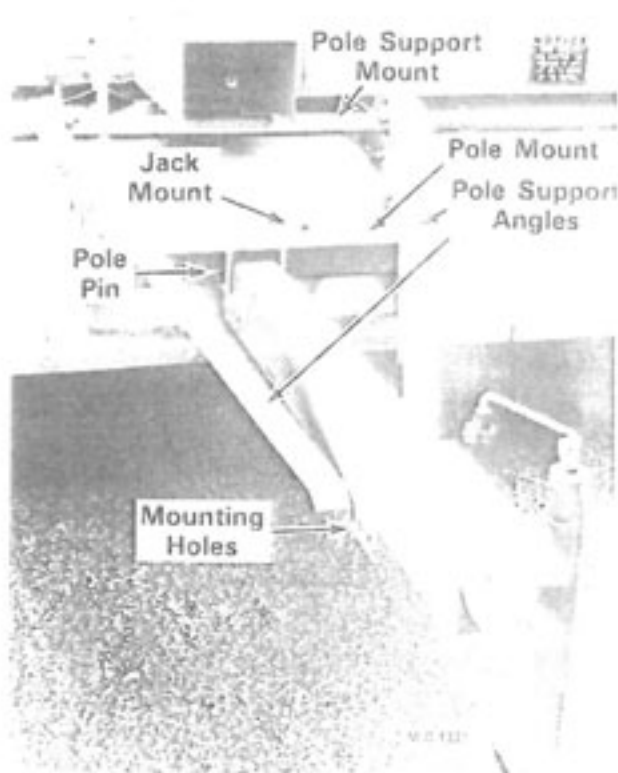

Figure 14
forward or back. There are seven pole support angle mounting holes on each side of the pole and three mounting holes on each side of the pole support mount, see Figure 14.
1. To prevent possible damage to the tractor tires when making sharp left turns, remove the pole jack from the pole. Store it on the jack mount located on the pole mount, see Figure 14.